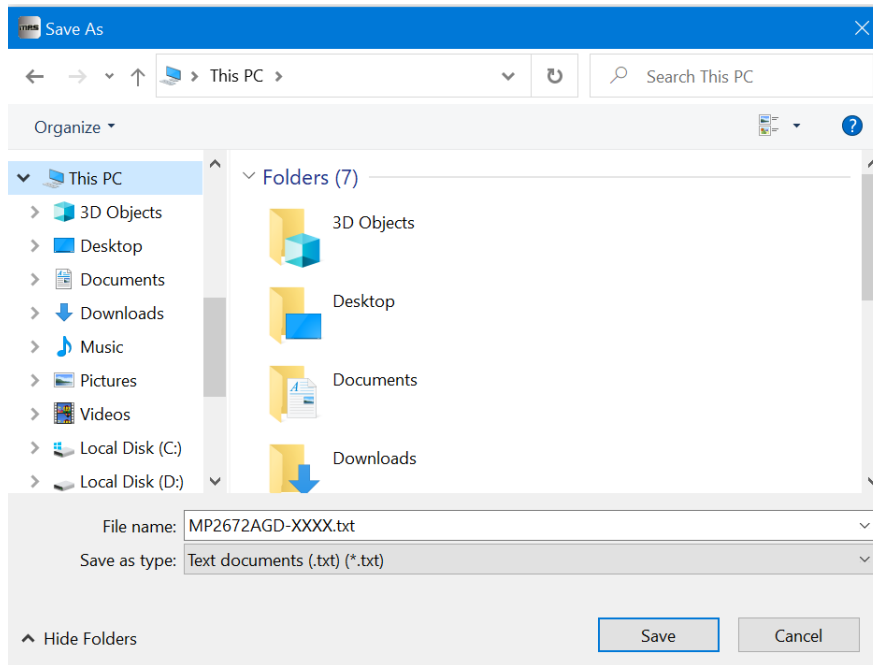

Figure 11: Saving Configurations
- Find a location for the exported file, then click “Save.” The configurations will save as a .txt file (see Figure 11).